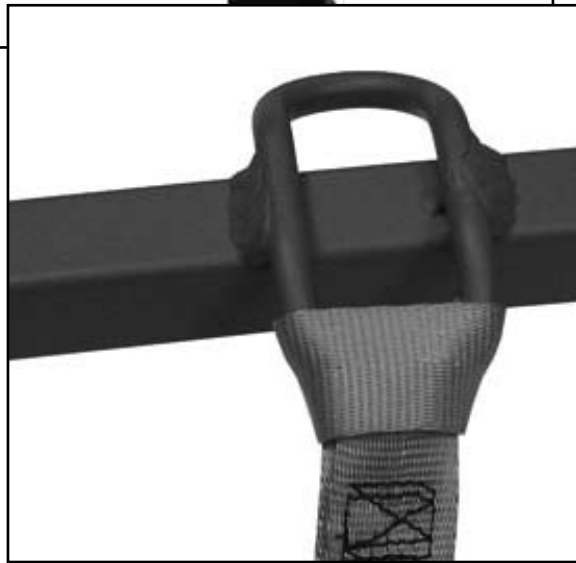
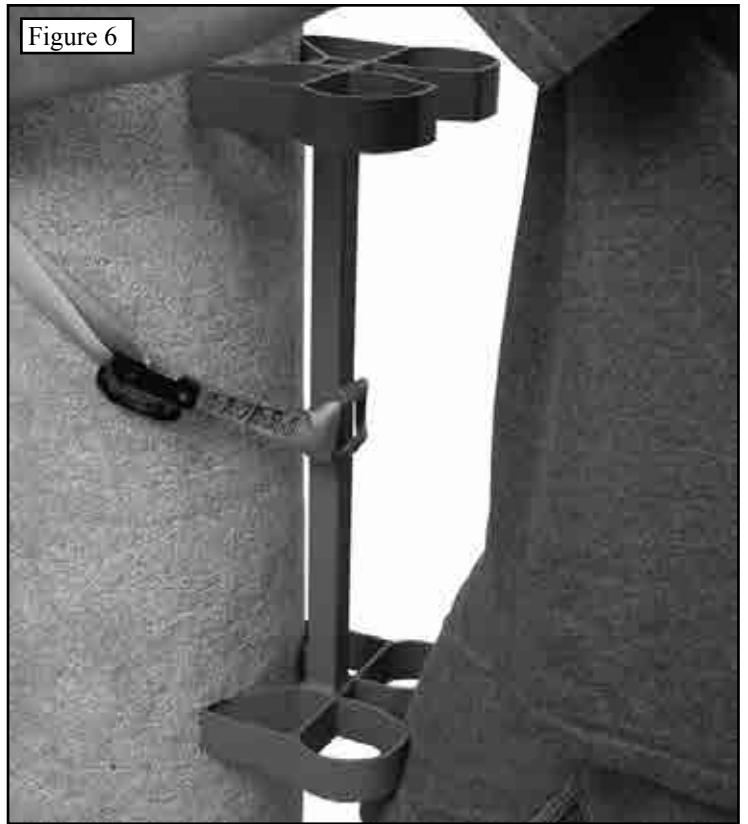

Figure 6
Figure 7
Step 1. Take one Buckstep section and press it firmly against the tree. For the first (bottom) section, this is easiest to do by holding it against the tree with your leg as shown in **Figure 6**. Wrap the free end (with the metal hook) around the tree and secure to the metal loop on the Buckstep as shown in **Figure 7**. Secure the hook into the metal loop as shown in **Figure 8**. **NOTE: The hook MUST be hooked from the inside out.** Your completed strap should look like **Figure 9**.